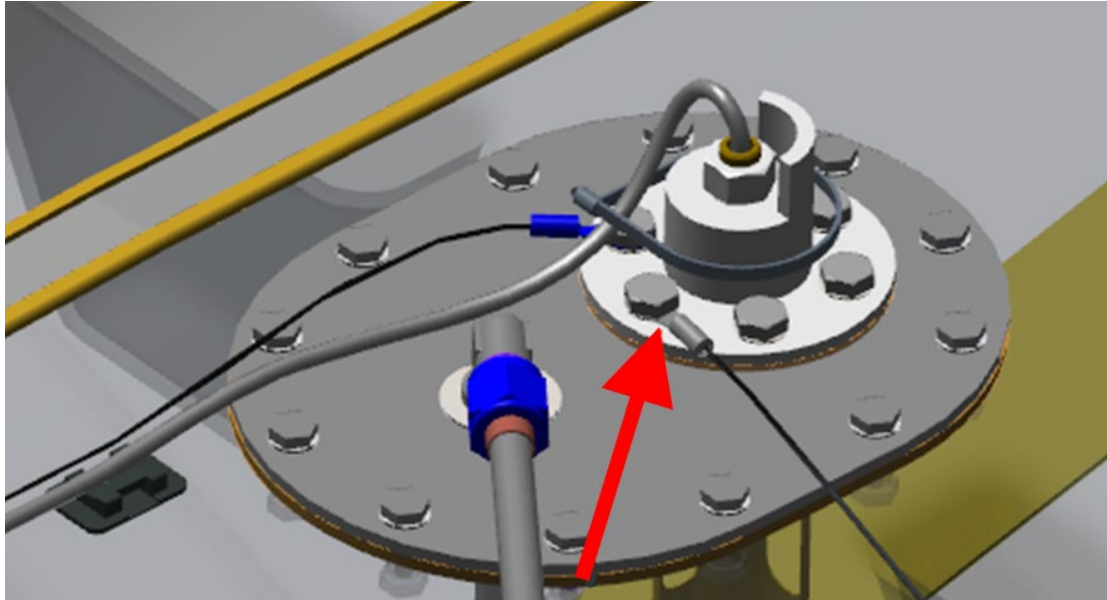

Figure 4. Fuel Tank Grounding Point
- h. Ground tank to earth using the grounding point on the Tank (ref. Figure 4).